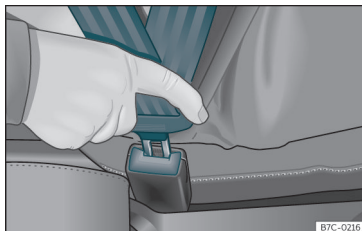

Fig. 9 Insert the latch plate of the seat belt into the buckle.
- Engage the latch plate in the buckle of the corresponding seat >>> **Fig. 9**.